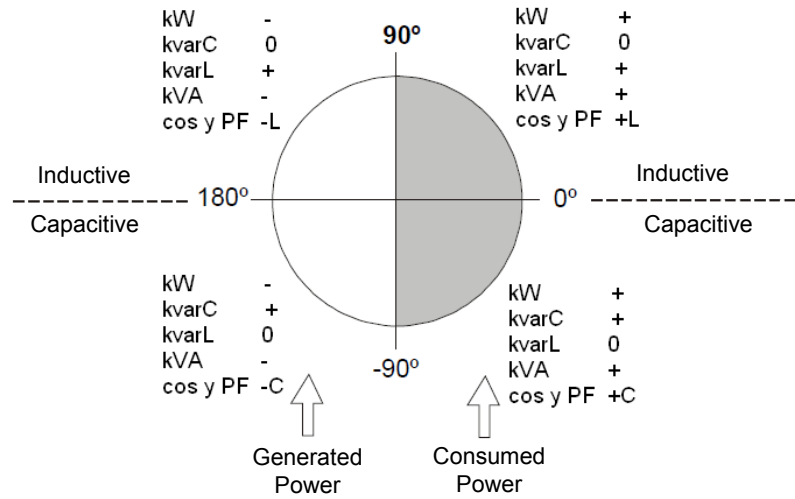

Figure 20: Diagram of the four measurement and compensation quadrants.
(7) The **cos $\varphi$**  and **Power factor** parameters are accompanied by the **kW sign** and **kva sign** parameters, which are used to determine the quadrant in which each phase is being measured. See **Figure 20**.